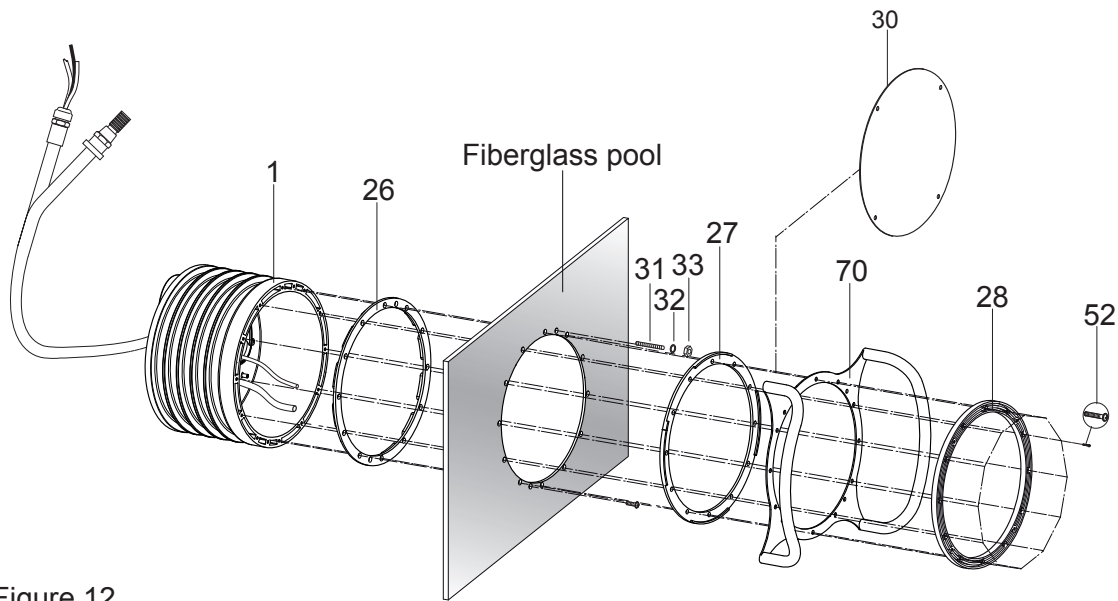

Figure 12
4. Align the clamping ring gasket (part# 27) on the inside of the pool wall as shown in Figures 12 and 13. Be sure the ribs on the outer edge of the gasket are facing away from the pool wall and are positioned as shown.